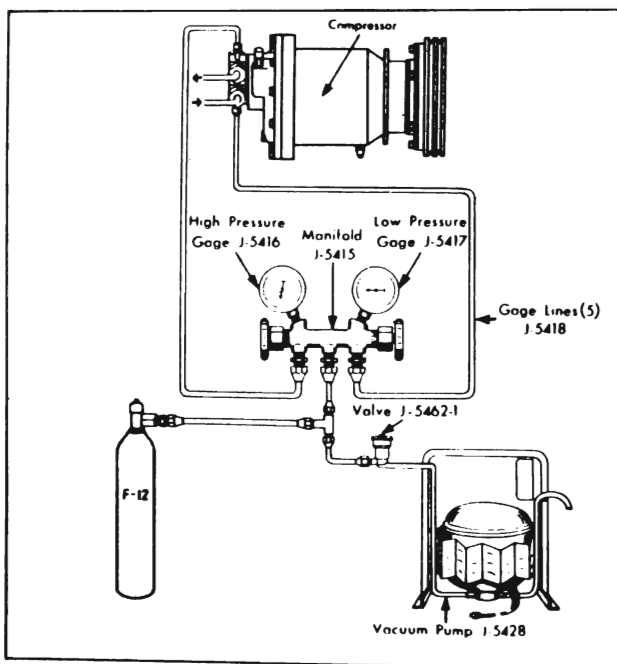

Figure 11-35—Service Charging Hook-up
1. Attach gauge lines and vacuum pump set-up as shown in figure 11-35.
1. Hook up gauges, lines and Freon 12 Cylinder as shown in Figure 11-35, but substitute a bottle or other suitable container in place of the vacuum pump. The container is to catch the evacuated oil so it may be measured and a like amount of clean oil replaced. Be sure that the fitting on the discharge valve is open to the compressor with no restrictions from valve closures, caps, or plugs in the attached line before starting the engine.
1. With the vacuum pump, Freon-12 cylinder and gauge set connected to the compressor as shown in Figure 11-35 and 12, place the cylinder in a bucket of hot water which does not exceed 125°F.